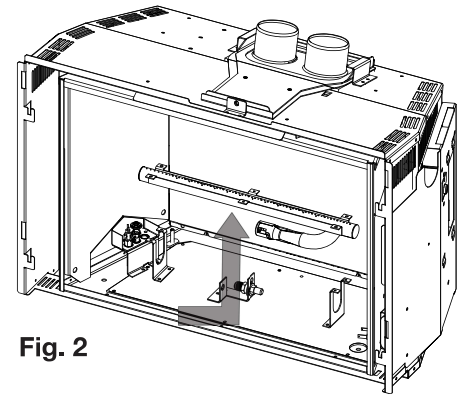

Fig. 2
- 3. Remove the burner tube (**Fig. 2**).